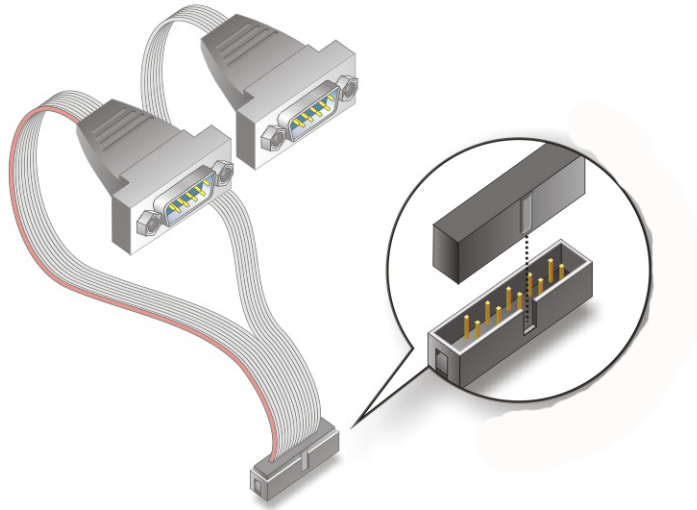

Figure 5-22: Dual Serial Port Connector Cable Connection
- Step 3: Insert the cable connectors** Once the cable connector is properly aligned with the COM2 serial port connector on the 3308440, connect the cable connector to the on-board connectors. See Figure 5-22.